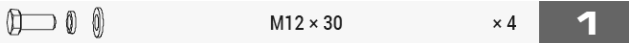

**Figure 2d**
4. Lift the tow bar lifting handle (See **Figure 2d, Illustration 1.**), and rotate the frame until it is perpendicular to the tank, ensuring the secure holes are aligned. (See **Figure 2d, Illustration 2.**)